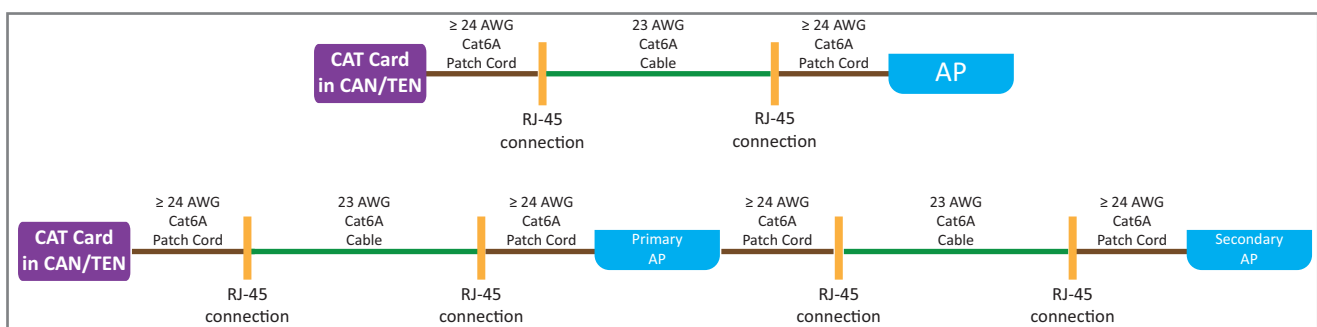

Figure 6. Maximum Number of RJ-45 Connections in Cable Runs
- There can never be more than two RJ-45 connections in a Cat6A cable run, as described below and as shown in Figure 6. Minimizing these connections improves the link margin.